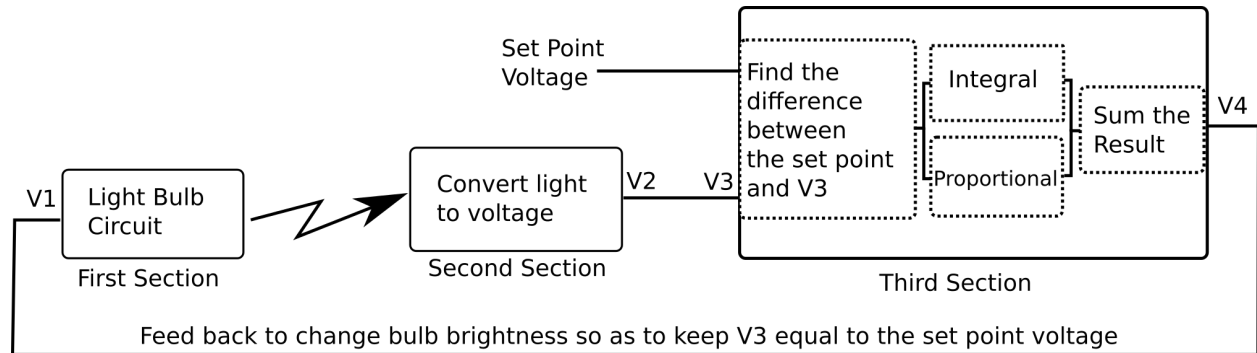

Figure 9
- See figure 9 for an overview of how all the sections will fit together.
You will now connect all three sections to create a complete feedback loop as shown in figure 9 (ignoring the proportional section for now).